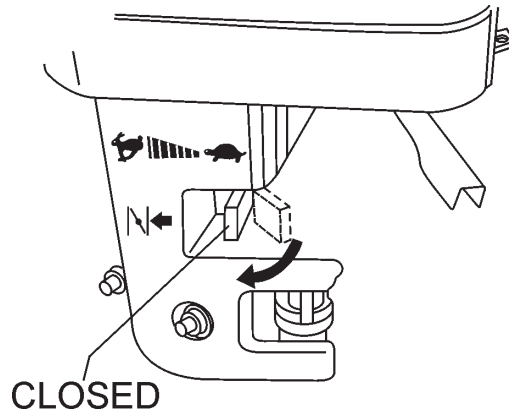

Figure 9. Engine Choke Lever (Closed)
3. Place the *choke lever* (Figure 9) in the "CLOSED" position if starting a *cold* engine.